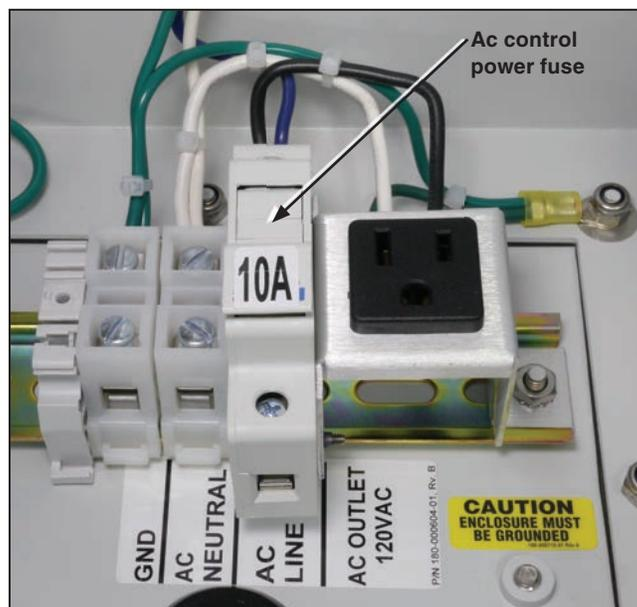

Figure 3. Connection terminal and ac control power fuse.
- De-energize external ac power, if present, by opening the ac control power fuse. See Figure 3.
- Re-energize external ac power, if present, by closing the control power fuse. See Figure 3 on page 9.